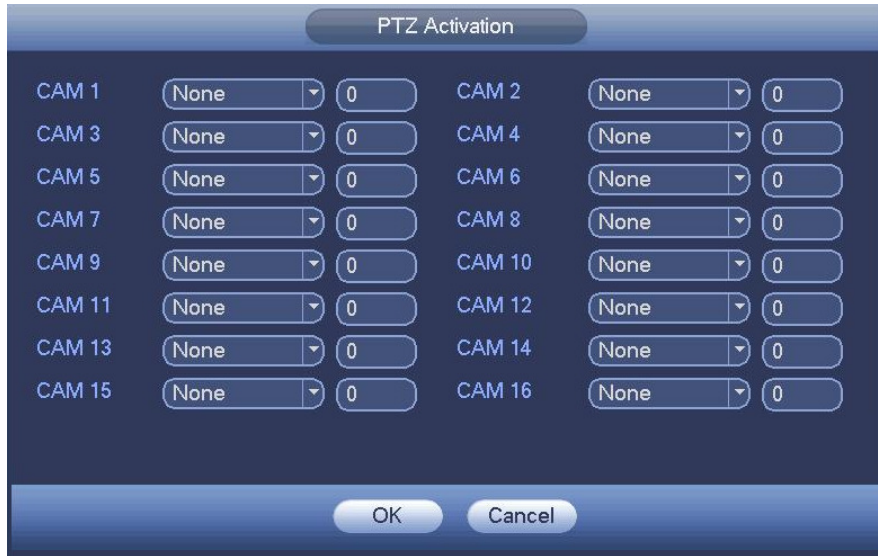

Figure 4-109
- PTZ activation: Here you can set PTZ movement when an alarm occurs. Such as go to preset, tour & pattern when there is an alarm. Click “select” button, you can see an interface is shown as in Figure 4-109.